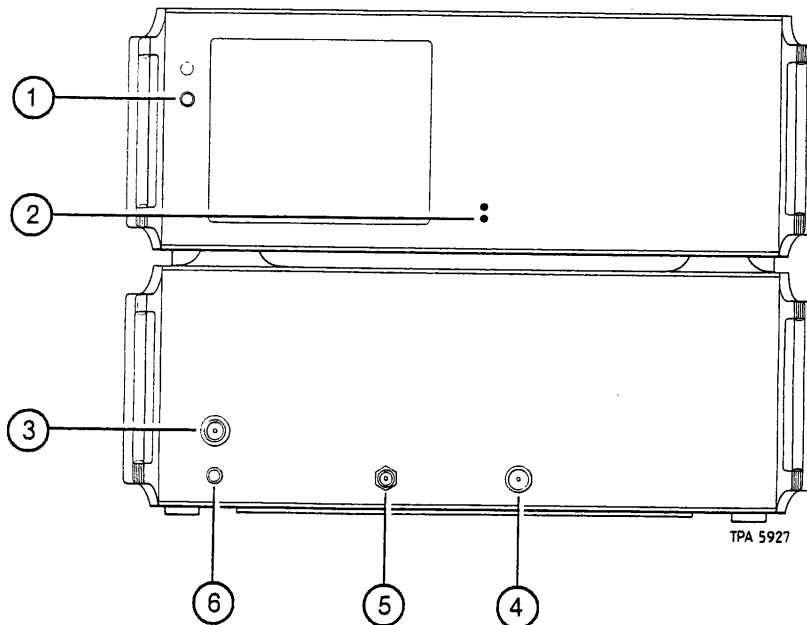

Fig. 3-1 Front panel inputs, outputs and indicating lights
Front panel (refer to Fig. 3-1)
Fit the supply lead 43123-076Y into the power input connector (3), connect to supply and rotate the SUPPLY switch on the upper unit (refer to Fig. 3-1 (1)) until the green indicator light is ON.
In order to see a coherent signal display, connect a 50 Ω cable between the STD 10 MHz OUTPUT (Fig. 3-1 (5)) and the INPUT (Fig. 3-1 (3)). The screen should display vertical bright lines corresponding to the 10 MHz signal and its harmonics. The fundamental can be identified as the largest spectral line a quarter of a division from the left-hand side of the screen.